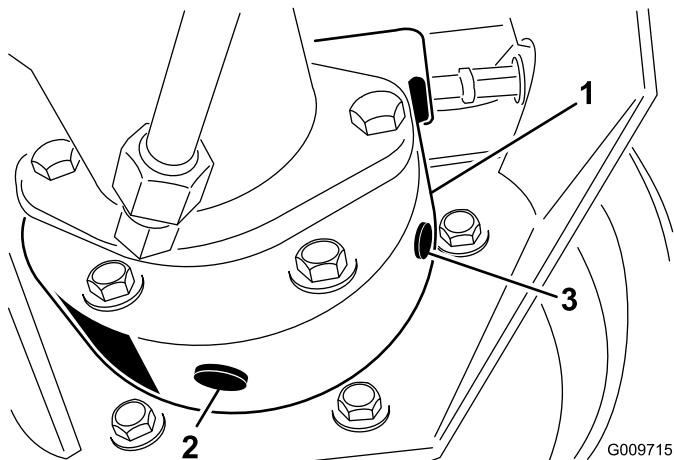

Figure 54
3. Place a drain pan under the brake housing, remove the drain plug, and allow the gear lubricant to drain (Figure 54).